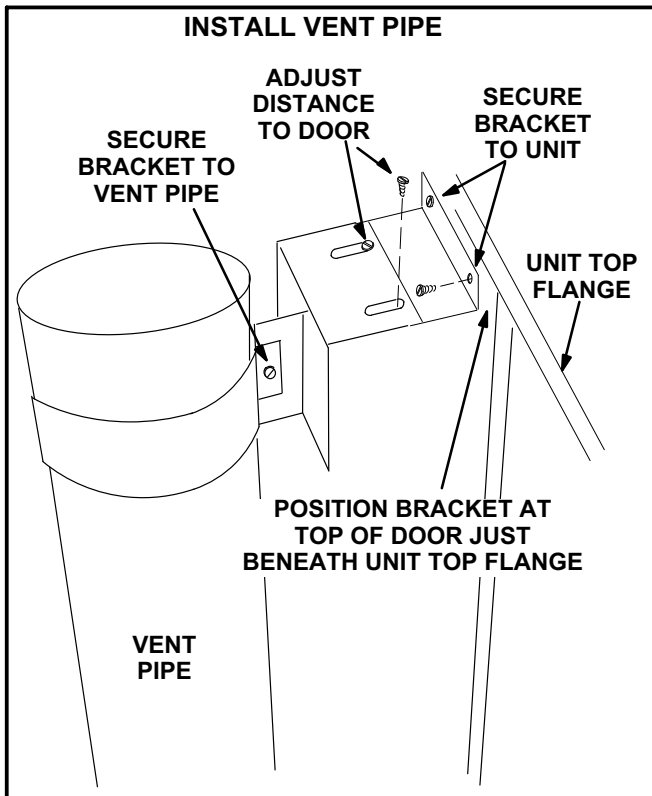

FIGURE 9
- 10- Slide bracket assembly over the top of installed vent pipe. Secure as shown in figure 9. Make sure bracket is as high on the door as possible but beneath unit top flange.